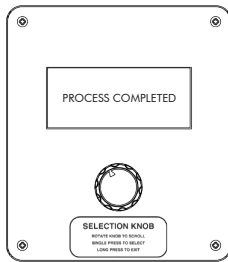

fig. no.25.2
2. This window indicates the completion of steam dosing process, with buzzer indication. (fig. no.25.2)